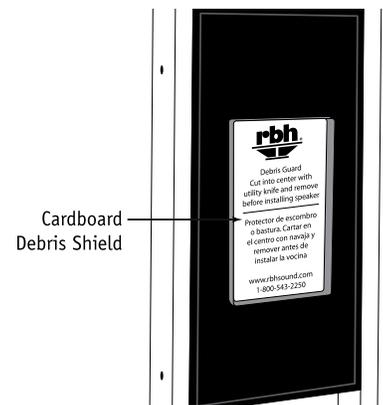

Figure 6.
2. If the cardboard debris shield was removed during the process of installing the speaker wire, replace it (see figure 6).